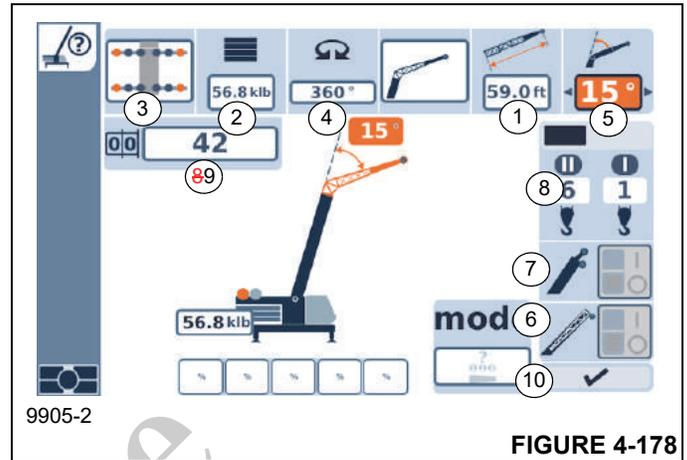

FIGURE 4-178
- Either enter the individual components (1, Figure 4-178) to (8) one after the other.
- Or enter the RCL code (9) and the reeving (8).